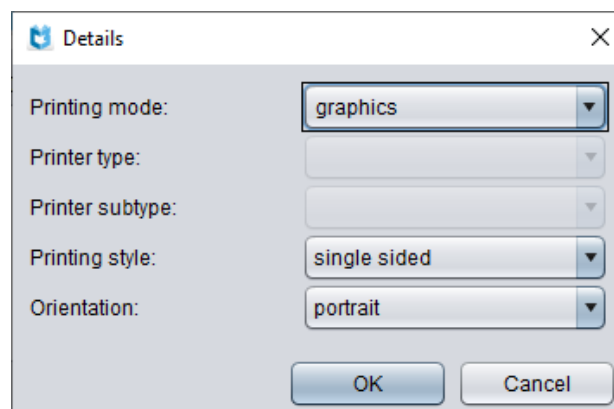

Figure 9: Details
- Figure 9: Details7
Once you select the printer, click the **Details** button and check whether the additional settings for this printer type are correct (see Figure 9).